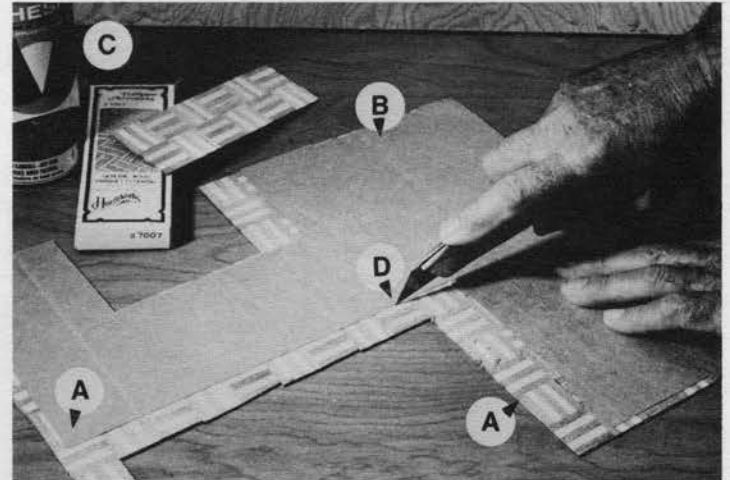

Fig. D-21
(FIGURE D-21) shows an assembly of Houseworks #7007 parquet wood flooring which has been glued to a panel of brown paper, (B). The brown paper is an exact fit of one of the rooms and was made using the ideas in the pattern making section.
You will notice that the flooring overhangs the paper so must be trimmed off as in (FIGURE D-21), using the utility knife, (D), (and a straight edge guide).